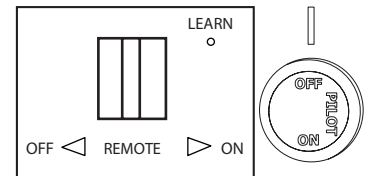

Fig. 26 - Receiver & Control Knob
2. Set receiver switch to “ON” position (See Fig. 26).
3. Turn control knob clockwise  to the “OFF” position (See Fig. 26).
4. Wait five (5) minutes to clear out any gas. Then smell for gas, including near the floor. If you smell gas, STOP! Follow “B” in the safety information as noted above. If you don’t smell gas, go to the next step.
5. Push in slightly and turn control knob counterclockwise  to the “PILOT” position (See Fig. 26). Depress control knob.